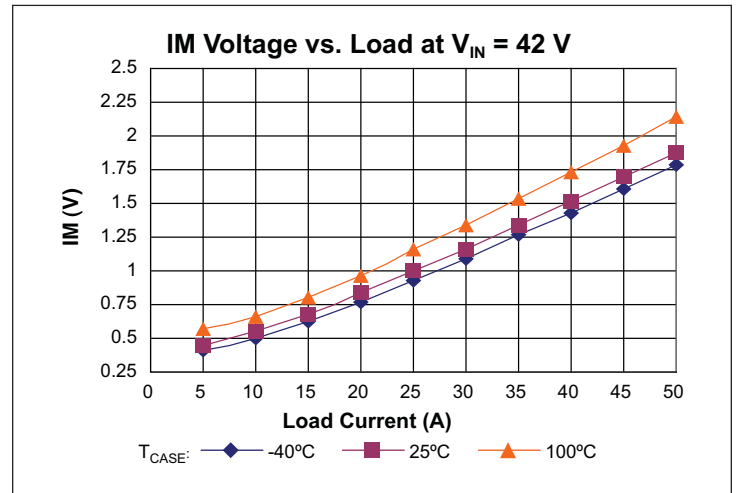

Figure 8 – IM voltage vs. load
**Current Monitor (IM)** pin provides a voltage proportional to the output current of the VTM. The nominal voltage will vary between 0.39 V and 1.86 V over the output current range of the VTM (See Figures 8–10). The accuracy of the IM pin will be within 25% under all line and temperature conditions between 50% and 100% load.